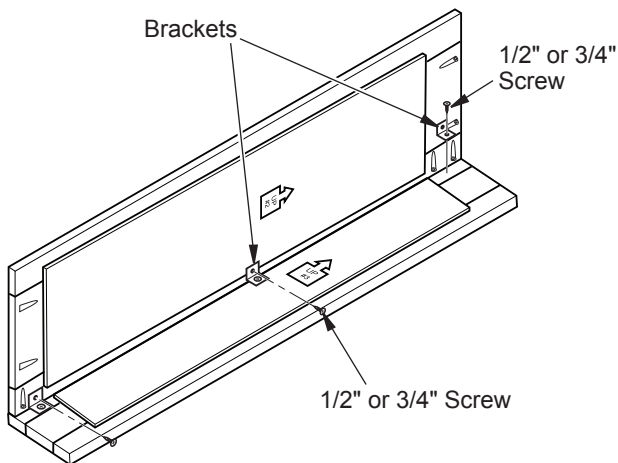

Figure 2 - Installing Brackets to Legs
2. Each leg assembly will use 3 brackets for stability. Your bracket hardware kit will contain either 1/2" or 3/4" screws. Using two 1/2" or 3/4" screws, install a bracket in the center of each leg assembly and one at each end within 1" of but not over the last pocket hole (see Figure 2).